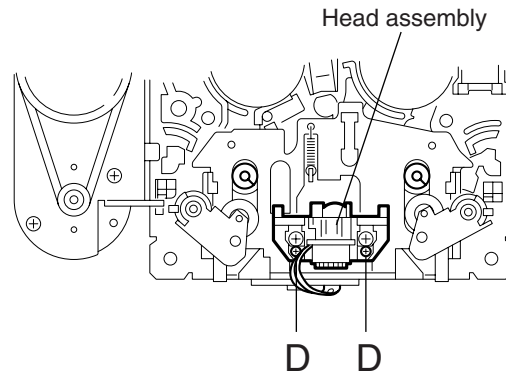

Fig.9
■ **Removing the head assembly / head board (See Fig.9 and 10)**
• Prior to performing the following procedure, remove the side bracket (L), (R), cassette hanger assembly / cassette holder.